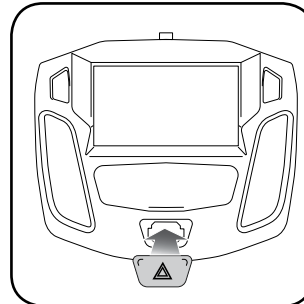

Fig. 2.3
3. Install the hazard switch into the FOC1 bezel (the other hazard/lock switch is not used). (Fig. 2.3)